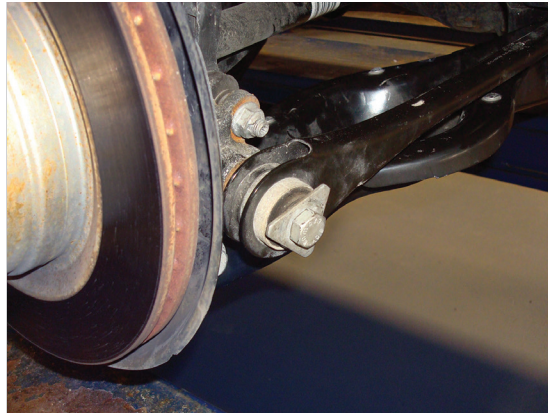

Fig. 13
- Unthread the outer toe link bolt and remove from hub (Fig. 13).